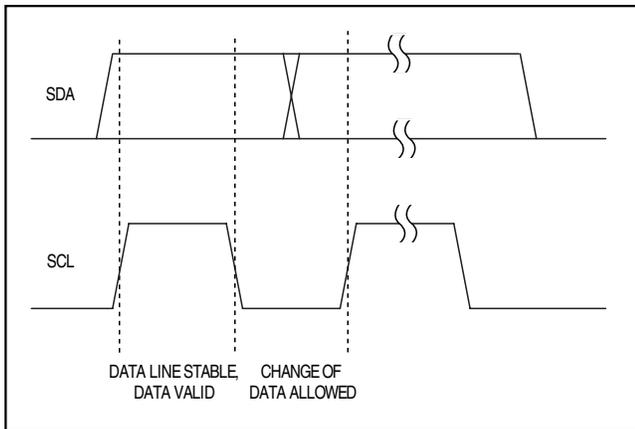
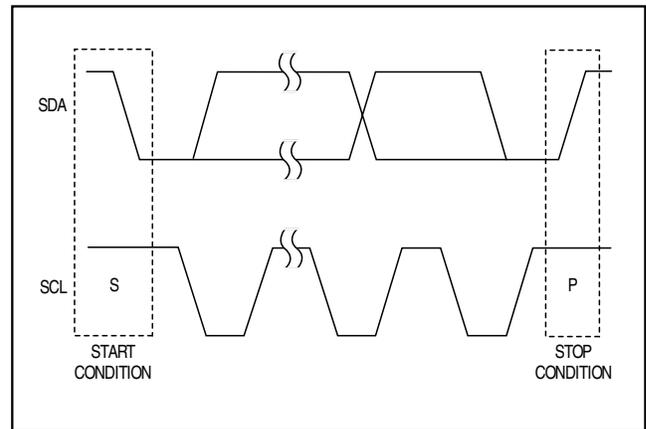
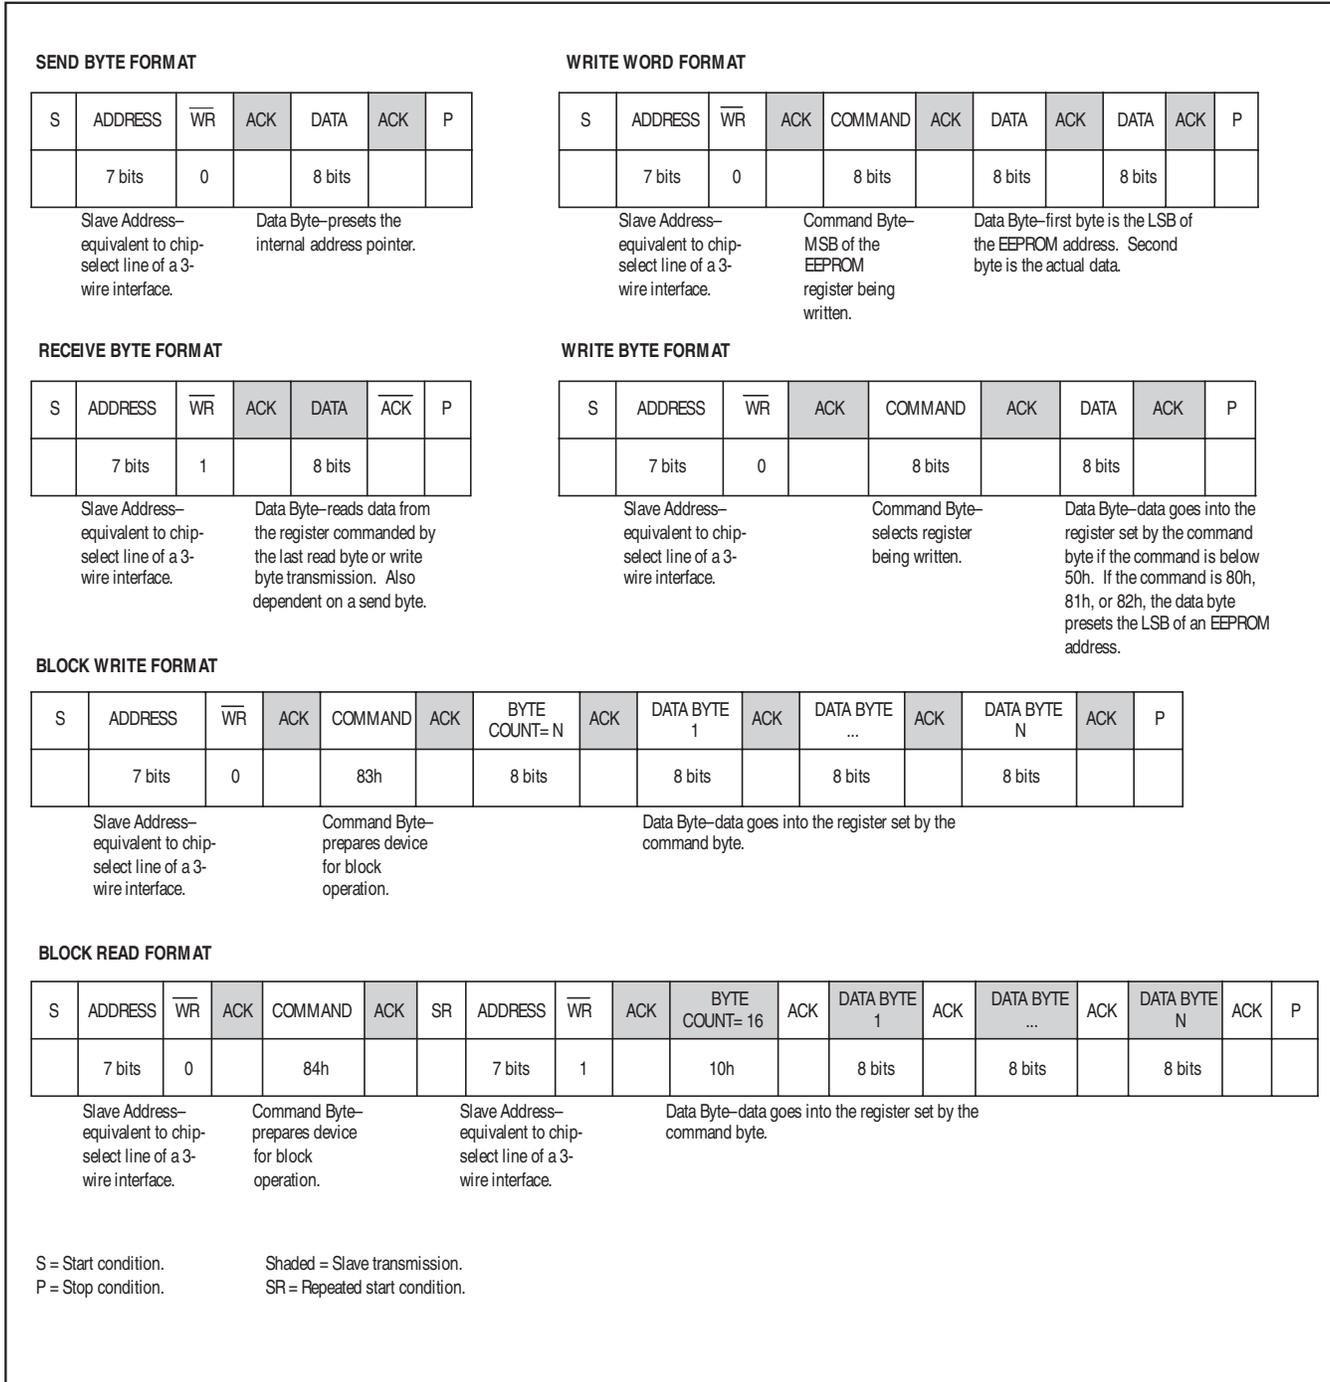

Figure 3. Bit Transfer
Figure 4. Start and Stop Conditions
Figure 7. SMBus/I²C Protocols
Each clock pulse transfers one data bit. The data on SDA must remain stable while SCL is high (Figure 3), otherwise the MAX6872/MAX6873 register a START or STOP condition (Figure 4) from the master. SDA and SCL idle high when the bus is not busy.
Both SCL and SDA idle high when the bus is not busy. A master device signals the beginning of a transmission with a START (S) condition (Figure 4) by transitioning SDA from high to low while SCL is high. The master device issues a STOP (P) condition (Figure 4) by transitioning SDA from low to high while SCL is high. A STOP condition frees the bus for another transmission. The bus remains active if a REPEATED START condition is generated, such as in the block read protocol (see Figure 7).
A REPEATED START (SR) condition may indicate a change of data direction on the bus. Such a change occurs when a command word is required to initiate a read operation (see Figure 7). SR may also be used when the bus master is writing to several I²C devices and does not want to relinquish control of the bus. The MAX6872/MAX6873 serial interface supports continuous write operations with or without an SR condition separating them. Continuous read operations require SR conditions because of the change in direction of data flow.
The send byte protocol allows the master device to send one byte of data to the slave device (see Figure 7). The send byte presets a register pointer address for a subsequent read or write. The slave sends a NACK instead of an ACK if the master tries to send an address that is not allowed. If the master sends 80h, 81h, or 82h, the data is ACK. This could be start of the write byte/word protocol, and the slave expects at least one further data byte. If the master sends a stop condition, the internal address pointer does not change. If the master sends 84h, this signifies that the block read protocol is expected, and a repeated start condition should follow. The device reboots if the master sends 88h. The send byte procedure follows:
The write byte/word protocol allows the master device to write a single byte in the register bank, preset an EEPROM (configuration or user) address for a subsequent read, or to write a single byte to the configuration or user EEPROM (see Figure 7). The write byte/word procedure follows:
The block write protocol allows the master device to write a block of data (1 to 16 bytes) to the EEPROM or to the register bank (see Figure 7). The destination address must already be set by the send byte or write byte protocol and the command code must be 83h. If the number of bytes to be written causes the address pointer to exceed 45h for the configuration register or configuration EEPROM, the address pointer stays at 45h, overwriting this memory address with the remaining bytes of data. The last data byte sent is stored at register address 45h. If the number of bytes to be written exceeds the address pointer FFh for the user EEPROM, the address pointer loops back to 00h, and continues writing bytes until all data is written. The block write procedure follows:
The receive byte protocol allows the master device to read the register content of the MAX6872/MAX6873 (see Figure 7). The EEPROM or register address must be preset with a send byte or write word protocol first. Once the read is complete, the internal pointer increases by one. Repeating the receive byte protocol reads the contents of the next address. The receive byte procedure follows:
The block read protocol allows the master device to read a block of 16 bytes from the EEPROM or register bank (see Figure 7). Read fewer than 16 bytes of data by issuing an early STOP condition from the master, or by generating a NACK with the master. The send byte or write byte protocol predetermines the destination address with a command code of 84h. The block read procedure follows: